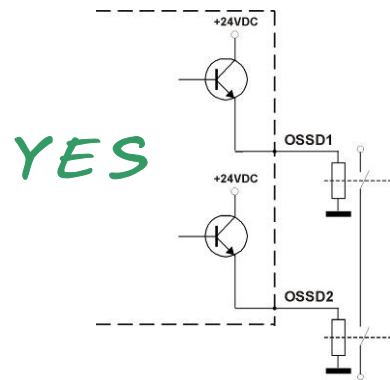

Fig. 18
- The OSSD1 and OSSD2 safety contacts cannot be connected in series or in parallel, but can be used separately (Fig.18). If one of these configurations is erroneously used, the device enters into the output failure condition (see chapter 7 "Diagnostic functions").